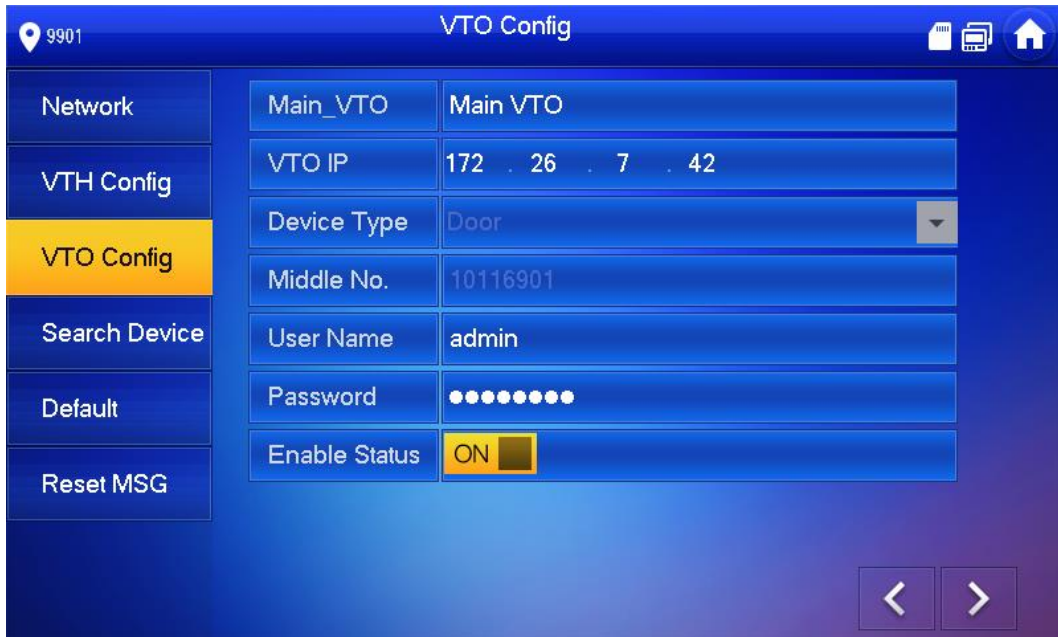

Figure 2-19
The system displays “VTO Config” interface, as shown in Figure 2-19.
1. In Figure 2-19, enter main VTO name, VTO IP, “User Name” and “Password”.